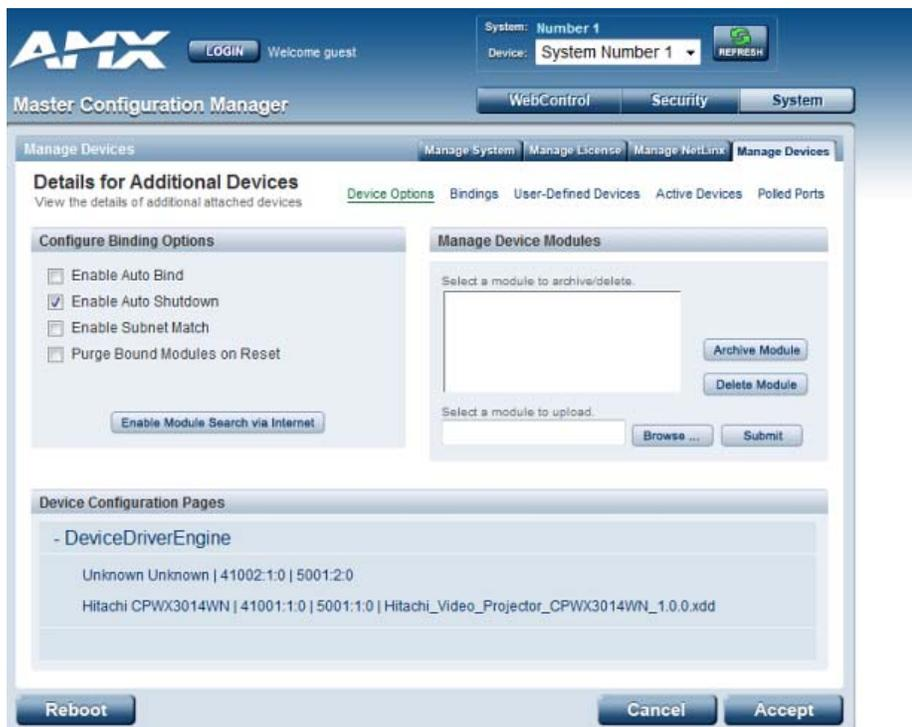

FIG. 104 WebConsole - System Page/Manage Devices tab
5. Open the Master's built-in WebConsole to the **System Page/Manage Devices** tab (FIG. 104):